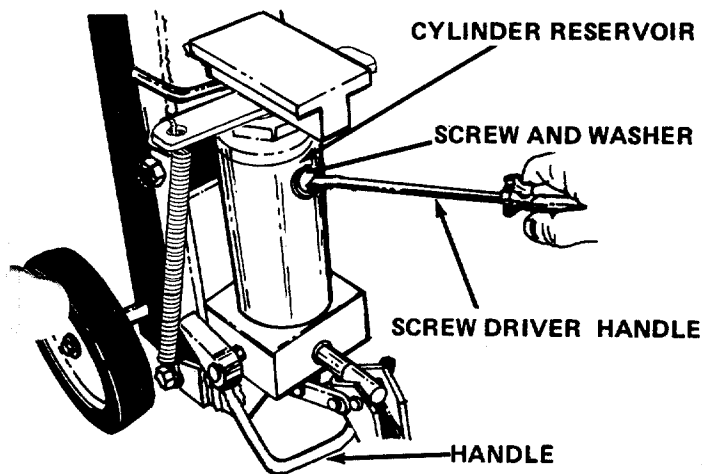

FIGURE 8
1. Lift the handle on the cylinder mounting assembly and pull cylinder assembly all the way back to the last notch. See figure 8.
4. Tip the log splitter up so it rests on the wheels and handle on cylinder assembly. See figure 8.
5. With a standard screwdriver, remove screw and washer from cylinder reservoir. See figure 8. If oil is up to hole, do not add any oil. If not, add oil to bring level up to hole. Oil capacity is 10 fluid ounces. Nuto H grade 32, or Exxon L.P. conventional #150 Hydraulic oil.